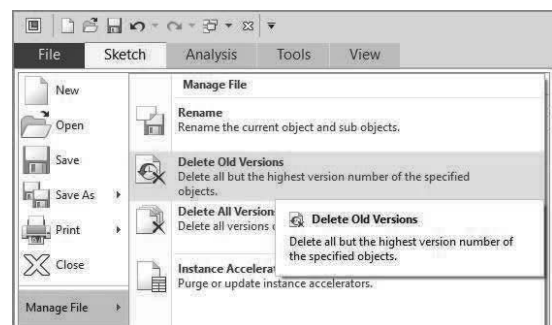

Figure 3-66 Delete Old Versions
**Step 33:** **File>Manage File>Delete Old Versions**. See Figure 3-66.